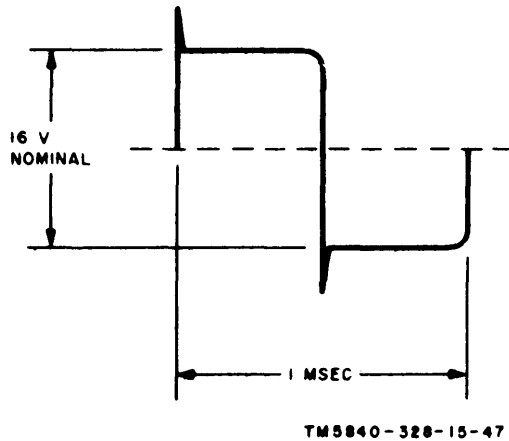

Figure 5-1. Waveshape of output at secondary terminals 8 and 10 of transformer T1.
l. A secondary winding coupled to the primary is proportioned to provide an unloaded voltage output of approximately 8 volts ac on each side of the center tap. To assist in maintaining frequency, the secondary is tuned with capacitor C9. This capacitor aids in removing transient spikes that tend to appear in the output waveshape (fig. 5-1).